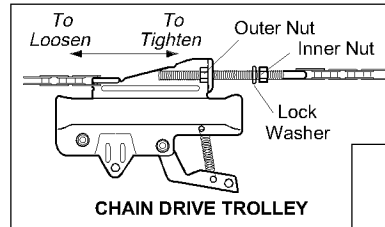

Figure 1
3. Relax chain or belt tension by loosening outer nut of trolley assembly to the end of the threaded shaft (Figure 1). Consult your manual.